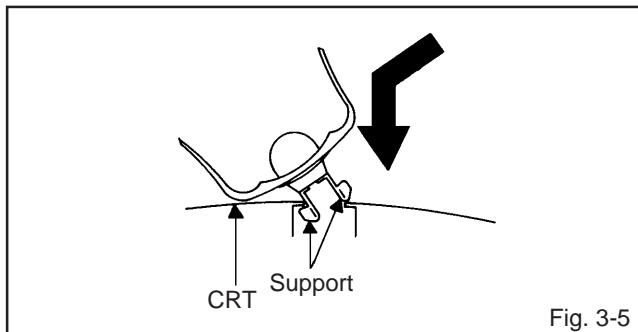

Fig. 3-5
4. Insert one end of the Anode Support into the anode button, then the other as shown in **Fig. 3-5**.